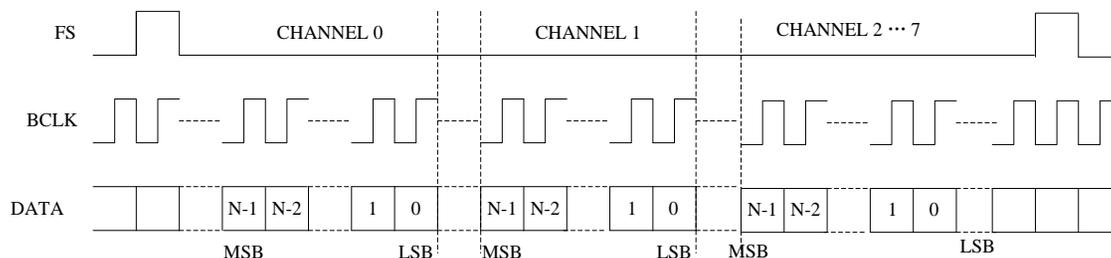

Figure 26 PCM Time Slot Audio Data
Normally, the DAC data is clocked immediately after the Frame Sync (FS); however, in PCM Time Slot Mode, the audio data can be delayed by setting **REG0XF[9:0]** and **REG0X10[9:0]** for the left and right channels, respectively. **REG0XE[10]** needs to be set to 1. These delays can be seen before the MSB in **Figure 26**.